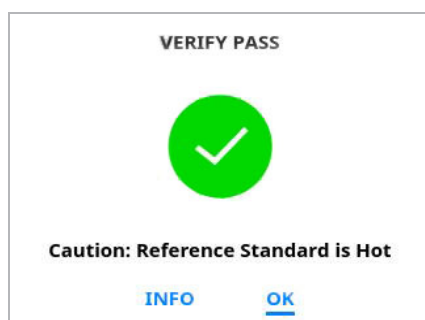

Figure 5-8: Verify Pass screen
Step 8: When analysis is complete, the Fido X4 will automatically display the result: “Verify Pass,” “Verify Fail,” or an error message will appear. If “Verify Pass” appears (Figure 5-8), select **OK**.